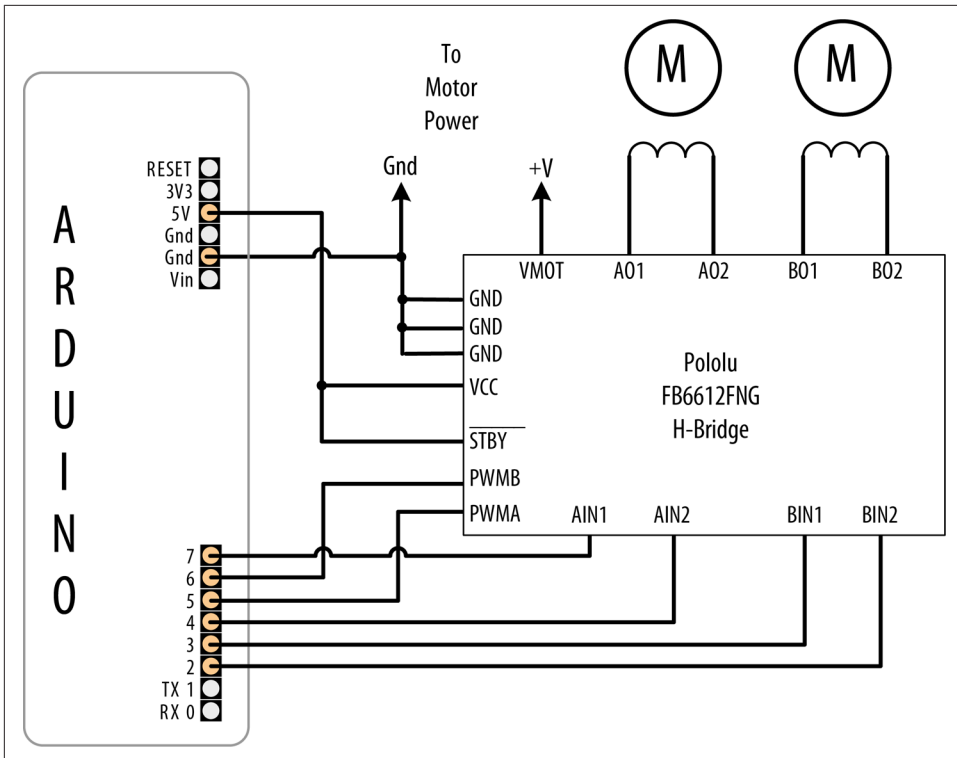

Figure 8-13. H-Bridge wiring for the Pololu breakout board
An alternative to the L293 is the Toshiba TB6612FNG. This can be used in any of the recipes showing the L293D. Figure 8-13 shows the wiring for the TB6612 as used on the Pololu breakout board (Pololu item 713).